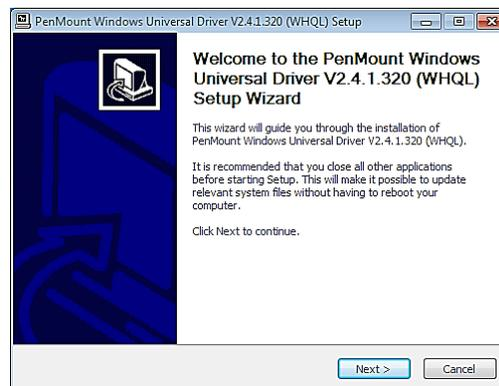

Figure. 99
Step 2: When the setup wizard appears, click “Next” to continue (Figure. 99).